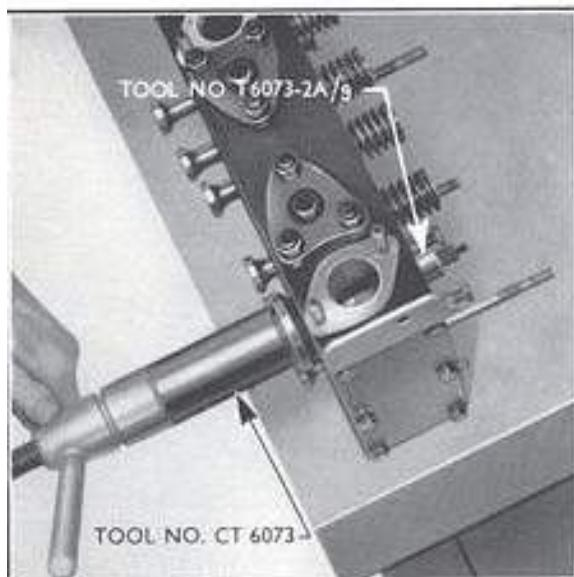

Fig. 6
On engines produced before tractor engine No. 1473070 the vertical location of the guide was determined by a machined stop on the outer diameter of the guide. After engine No. 1473070 the valve guides were manufactured with a parallel O.D. and to ensure the correct guide protrusion of 0.584 in. (14.83 mm.) to 0.594 in. (15.09 mm.) a replace stop T.6073-2A g is used in conjunction with the main tool CT.6073 to replace the guides (see Fig. 6).
- Turn the wing nut to pull the guide into the head (see Fig. 6), and continue until the replace stop T.6073-2A g is tight against the cylinder head.